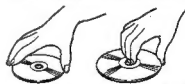

Fig. 51
- Do not touch the disc's playing side. Handle the disc as shown below (Fig. 51).